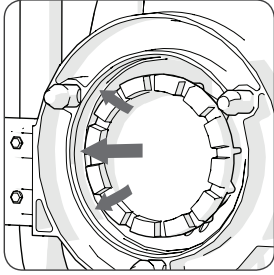

Fig 10 (arrows show inner wall of annular ring)
- Keep the annular ring scrupulously clean and free from debris. **(Fig. 10)**